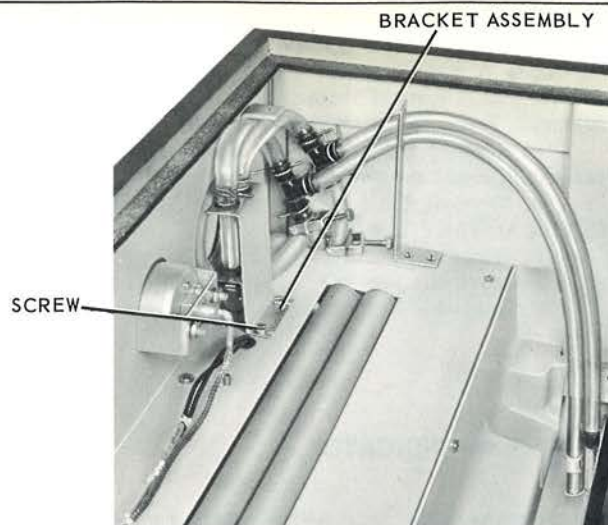

FIGURE 48 REPLENISHER LINES AND RELATED PARTS
- Remove the two SCREWS, figure 48, from the BRACKET ASSEMBLY.